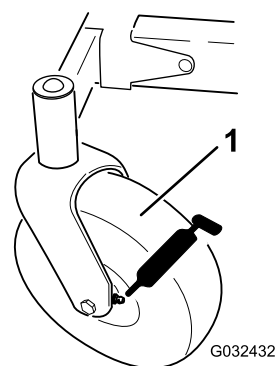

Figure 33
3. Clean the grease fittings (**Figure 33**) with a rag.
4. Connect a grease gun to each fitting (**Figure 33**).